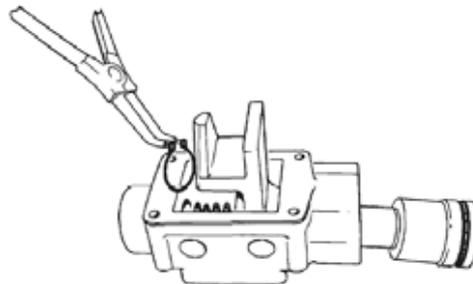

Figure 11 Removing Circlip
- c. Push the piston into the cylinder bore by hand and remove the circlip retaining the selector fork to the piston from its groove (Figure 11).